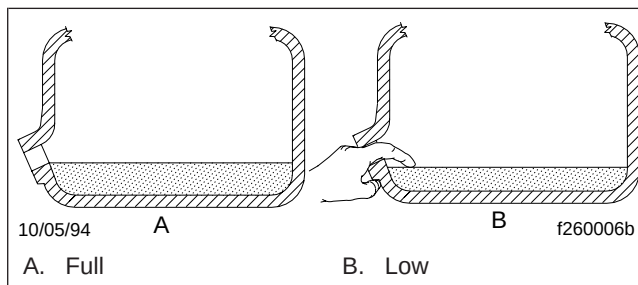

Fig. 1, Transmission Fluid Level Checking
- 2.2 Using your finger or a bent pipe cleaner, see if the oil is level with the lower edge of the fill opening. See Fig. 1.
1. Add oil until it is level with the lower edge of the fill opening. See Fig. 1. If the transmission has two fill openings, add oil to the level of both fill openings.